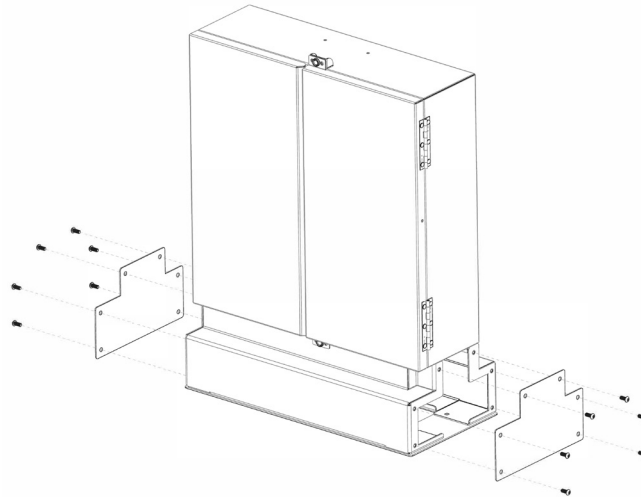

Figure 10. Removing Side Access Covers From Ground Spacer/Riser
11.1.1 Use a 3/16-inch hex-key to remove the screws that secure the access covers to the left and right sides of the cabinet ground spacer/riser as shown in Figure 10.